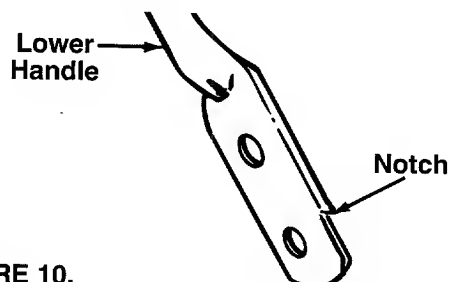

FIGURE 10.
- Turn the lower handle around so the notch on the bottom of the lower handle faces forward as shown in figure 10. Reassemble, placing the bottom holes in the handle over the weld pins in the handle mounting bracket. Place the hairpin clips in the inner holes in the weld pins.